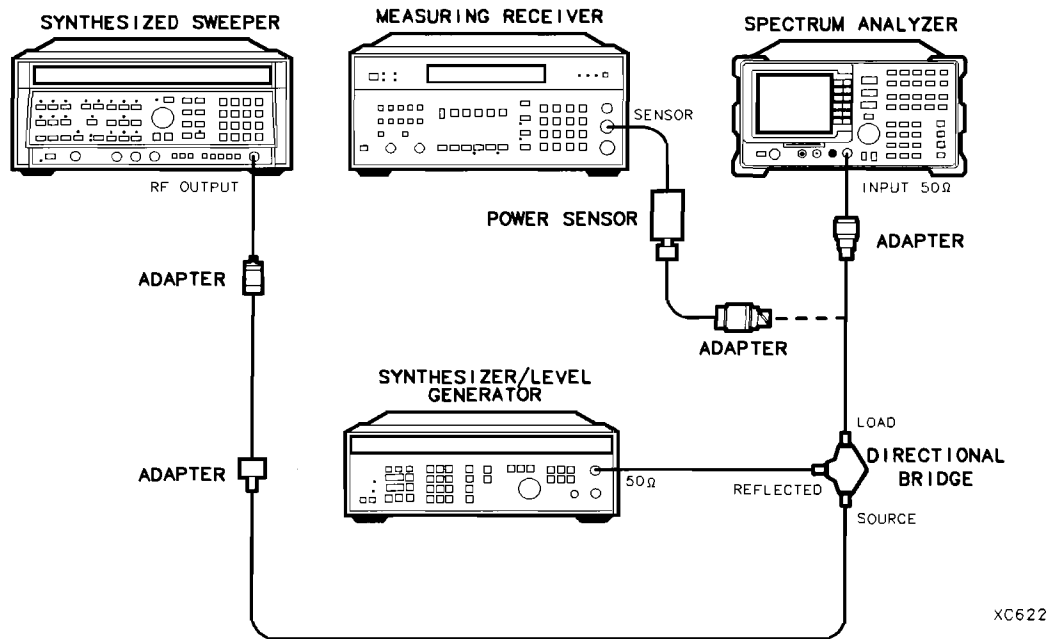

Figure 2-60. Gain Compression Test Setup
2. Connect the equipment as shown in Figure 2-60, with the load of the directional bridge connected to the power sensor.
15. Connect the equipment as shown in Figure 2-60.